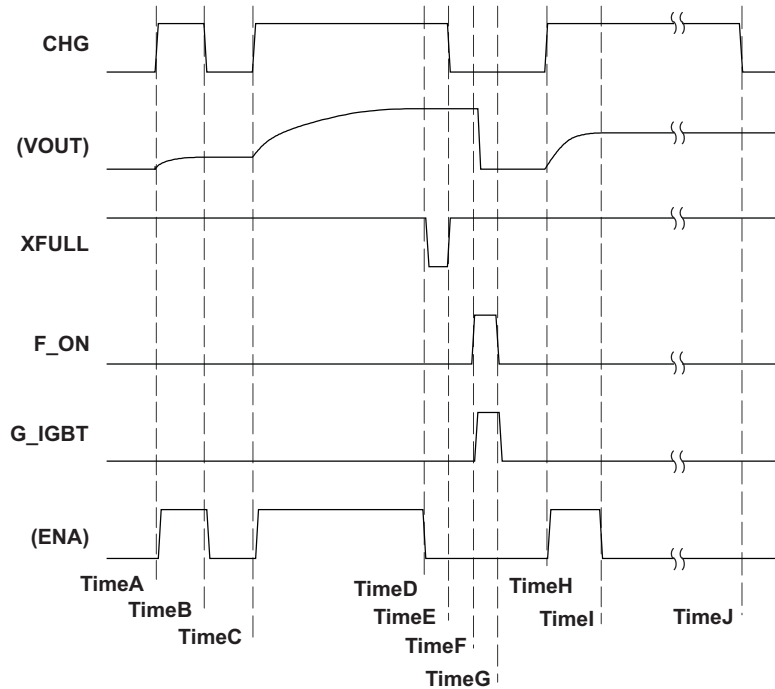

Figure 4. Whole Operation Sequence Chart
The only way to *start* charging is to input  $\text{CHG}\uparrow$  (see time A/C/H in Figure 4). Each time  $\text{CHG}\uparrow$  is applied, the TPS65561 starts charging.
1. Forced *stop* by inputting  $\text{CHG} = \text{L}$  from the controller (see timeB in Figure 4).
2. Automatic *stop* by detecting a full charge. *VOUT* reaches the target value (see TimeD in Figure 4).
3. Protected *stop* by detecting an over current function ( $\text{OV}_{\text{DS}}$ ) trigger at SW pin (see TimeI in Figure 4).
The device starts charging at *timeH*, and  $\text{OV}_{\text{DS}}$  protection occurs at *TimeI* (see Figure 4). At *TimeI*, *XFULL* stays high. At *TimeJ*, the controller detects  $\text{OV}_{\text{DS}}$  protection through the expiration of a timer and then sets *CHG* to low to terminate the operation.
The TPS65561 provides an overvoltage monitor function of the SW pin. The TPS65561 is latched off if the voltage on the SW pin is above  $OV_{DS}$  during the switch ON time (see Figure 4 and its descriptions).